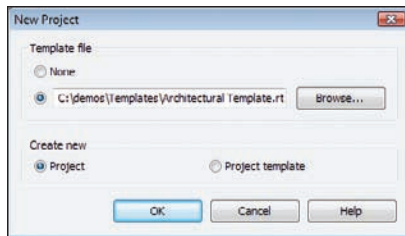

FIGURE 1.5 The New Project dialog allows you to start a new project using a preexisting template file, or you can create a new template file.
5. The New Project dialog shown in Figure 1.5 opens. You can use the default template or no template, or you can create a new template by clicking the Project Template radio button. (We will cover template creation later in the book.) For now, just click OK to create a new project using the default template. You do not need to alter anything in this dialog.